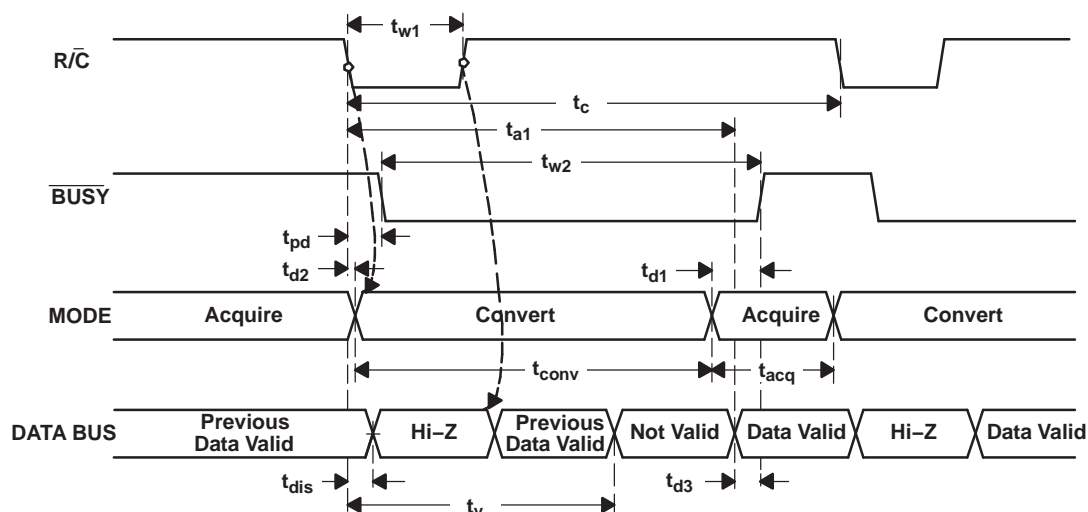
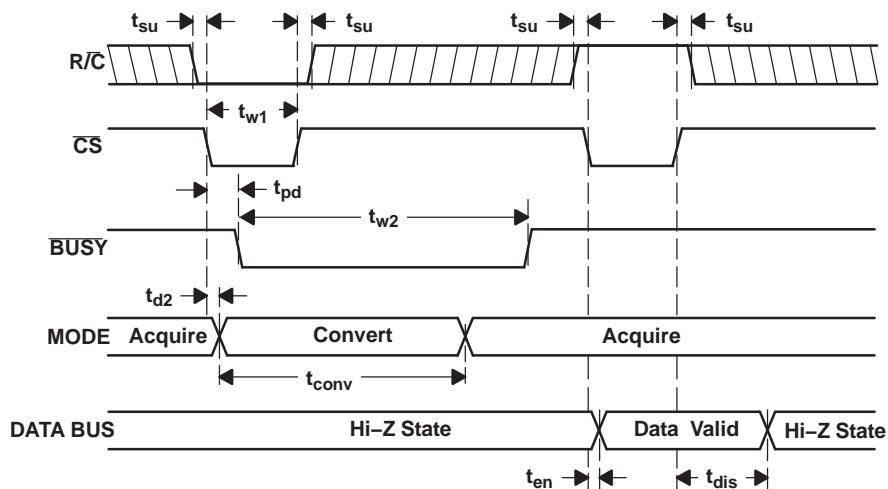
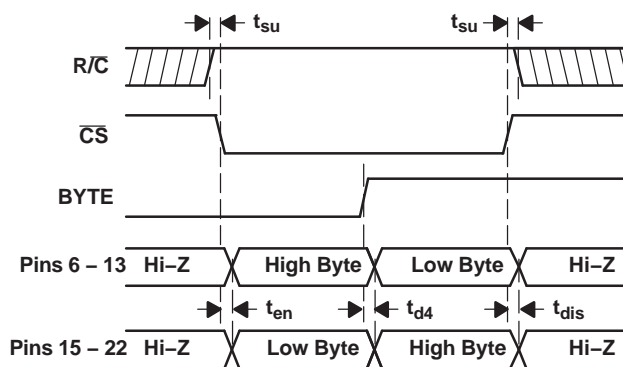

Figure 23. Conversion Timing with Outputs Enabled after Conversion (\overline{CS} Tied Low)
Figure 24. Using \overline{CS} to Control Conversion and Read Timing
Figure 25. Using \overline{CS} and BYTE to Control Data Bus
The ADS8505 begins tracking the input signal at the end of the conversion. Allowing 4 μ s between convert commands assures accurate acquisition of a new signal. Refer to Table 1 for a summary of \overline{CS} , R/\overline{C} , and \overline{BUSY} states and Figure 23 through Figure 25 for the timing diagrams.
(1) See Figure 23 and Figure 24 for constraints on data valid from conversion $n-1$.
After conversion n is completed and the output registers have been updated, \overline{BUSY} (pin 26) goes high. Valid data from conversion n is available on D15-D0 (pins 6-13 and 15-22). \overline{BUSY} going high can be used to latch the data. Refer to Table 3, Figure 23, Figure 24, and Figure 25 for timing specifications.
After conversion n has been initiated, valid data from conversion $n-1$ can be read and is valid up to t_2 (2.2 μ s typ) after the start of conversion n . Do not attempt to read data from t_2 (2.2 μ s typ) after the start of conversion n until \overline{BUSY} (pin 26) goes high; this may result in reading invalid data. Refer to Table 3, Figure 23, Figure 24, and Figure 25 for timing specifications.
The number of control lines can be reduced by tying \overline{CS} low while using the falling edge of R/\overline{C} to initiate conversions and the rising edge of R/\overline{C} to activate the output mode of the converter. See Figure 23.